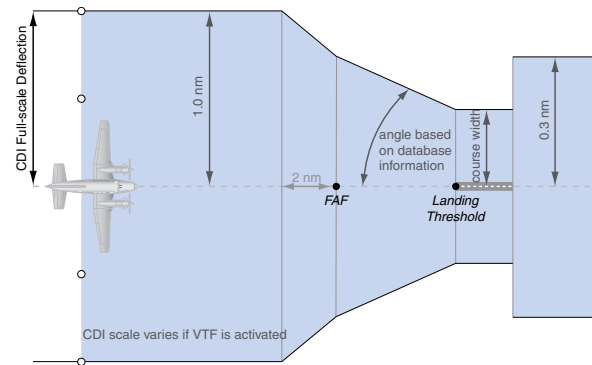

Figure 2-32 Typical LNAV/VNAV and LPV Approach CDI Scaling
- During **approach**, the CDI scale ramps down even further (see Figures 2-32 and 2-33). This transition normally occurs within 2.0 nm of the final approach fix (FAF). The CDI switches to approach scaling automatically once the approach procedure is activated or if Vector-to-Final (VTF) is selected.